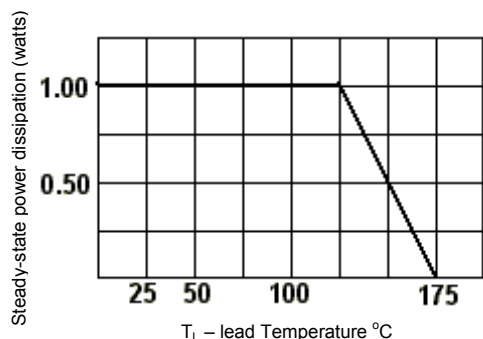

**FIG. 1 – Non-repetitive peak pulse power rating curve**
- 1500 Watts for 10/1000  $\mu$ s with repetition rate of 0.01% or less\* at lead temperature ( $T_L$ ) 25°C (see Figs 1, 2, & 4)
- Suppresses transients up to 1500 watts @ 10/1000  $\mu$ s (see Figure 1)